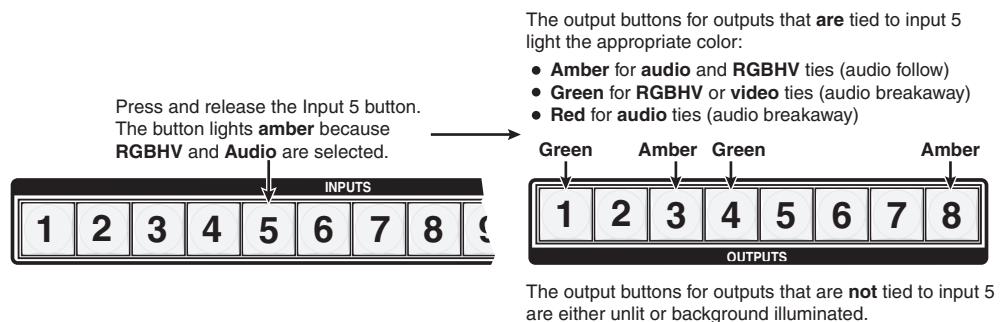

Figure 3-23 — Select an input
4. Press and release the input 5 button (figure 3-23).